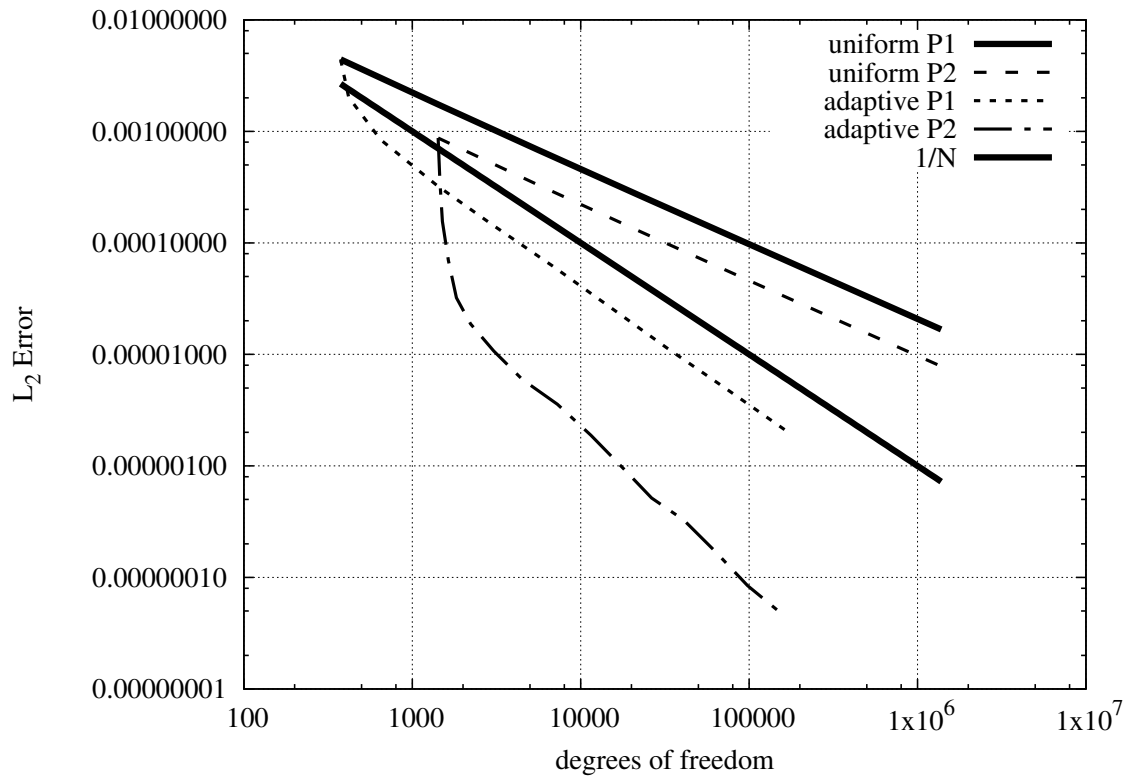

Figure 1:  $L_2$ -error versus number of degrees of freedom for different polynomial degrees.
3. Investigate the  $L_2$ -error for different polynomial degrees. Run the code using different polynomial degrees and also uniform and adaptive (use your optimal `fraction`) refinement. Use `gnuplot` to produce graphs such as those in Figure 1. An example `gnuplot` file `plot.gp` is given.